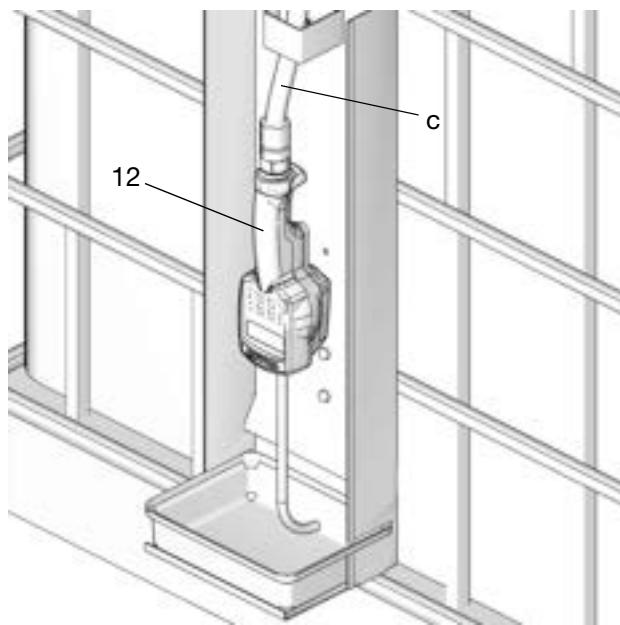

FIG. 22
4. Install the meter (12) to the end of hose. Tighten fitting securely (FIG. 22).